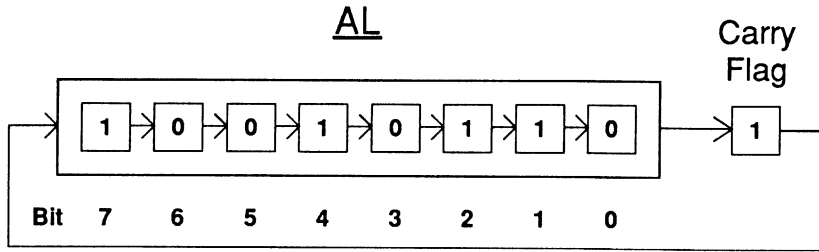

Figure 4.11: Example of RCR (Rotate Right and Carry)
**ROR** and **RCL** are a bit different. **ROR** is like a right shift in which the most-significant bit is shifted in from the carry flag. Figure 4.11 shows how the value 100101106 (96h or 150 decimal) stored in AL is rotated right through the carry flag, which initially contains the value 1, with **ROR AL,1**. The result is the value 11001011b (0CBh or 203 in decimal), which is stored back in AL. The carry flag is set to 0.